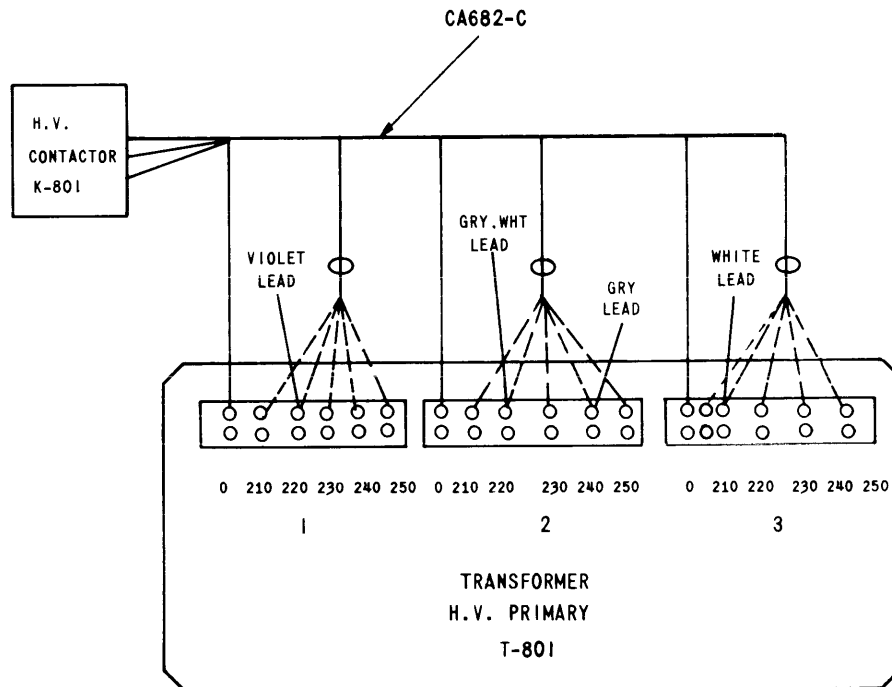

Figure 2-2. Transformer H. V. Primary Connections
- c. Refer to figure 5-12 and position Transformer in frame accordingly. Connect Transformer leads in the following manner: Refer to figure 2-2 and connect CA-682 to Transformer primary terminals. Each of the three primary sections will have three heavy insulated black leads that must be connected between terminal "0" and the corresponding primary AC input voltage tap (210, 220, 230, 240 and 250).
Additionally, there are small insulated leads that must be connected to the primary sections. (Refer to figure 2-2). Connect: